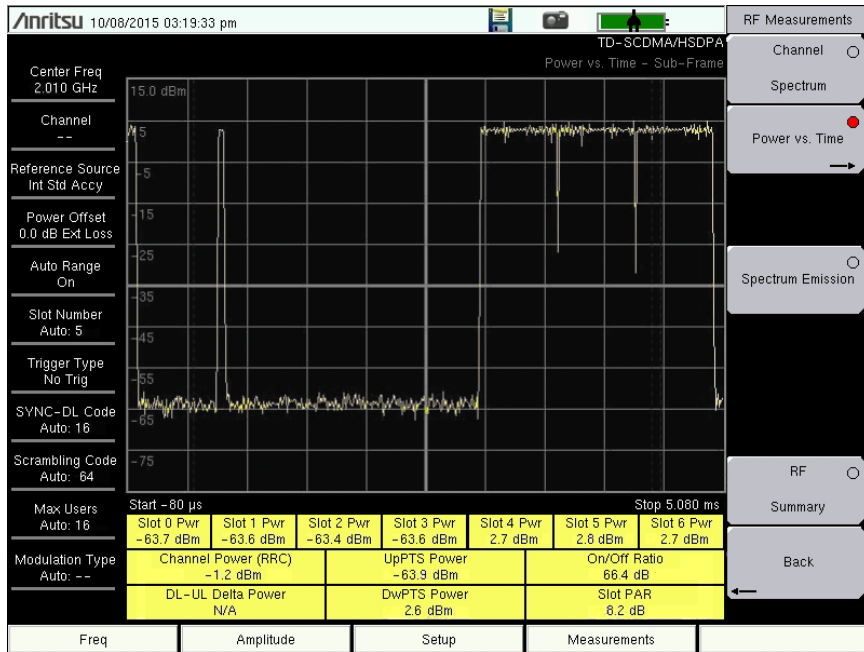
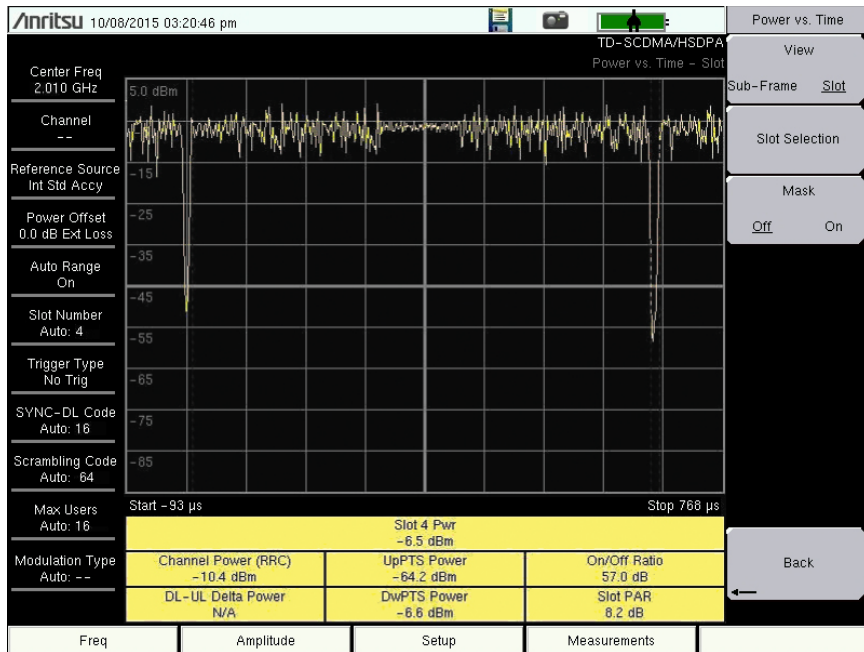

Figure 4-2. TD-SCDMA/HSPA+ Power vs. Time: Sub-Frame Measurement
Figure 4-3. TD-SCDMA/HSPA+ Power vs. Time: Slot Measurement
- a. Press the **View** submenu key to toggle the measurement view to **Sub-Frame** (see Figure 4-2) or **Slot** (see Figure 4-3).